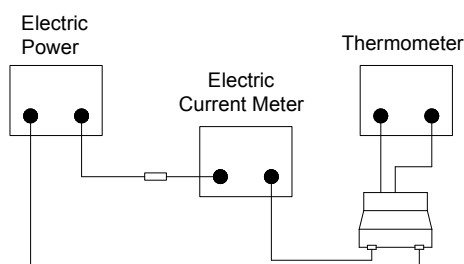

Fig.5.3.4-1
- Definition of Temperature rise current: DC current that causes the temperature rise ( $\Delta T = 40^{\circ}\text{C}$ ) from  $20^{\circ}\text{C}$  ambient (see Fig. 5.3.4-2).